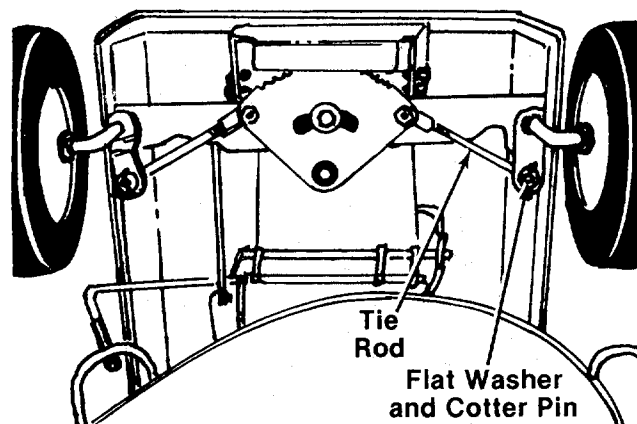

FIGURE 27.
The caster (forward slant of the king pin) and the camber (tilt of the wheels out at the top) require no adjustment. Automotive steering principles have been used to determine the caster and camber on the mower. The front wheels should toe-in  $\frac{1}{8}$  inch. See figure 27. To adjust, follow these steps:
1. Remove the cotter pin and flat washer which hold the tie rod to the axle bracket. See figure 27.